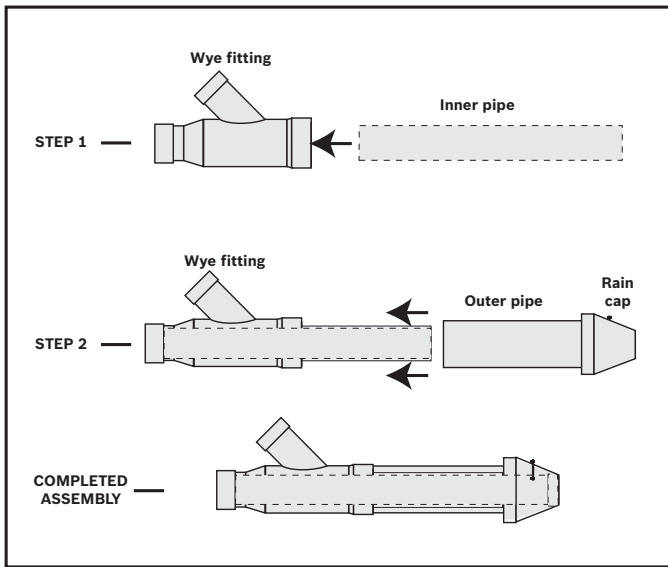

Fig. 7 Concentric vent component assembly
- A) Glue the inner pipe to the concentric Wye fitting (Fig. 7, Step 1).
B) Next, glue outer pipe to the concentric Wye fitting (Fig. 7, Step 2).